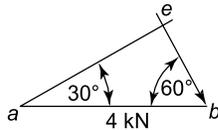
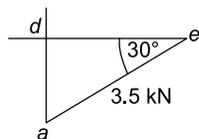
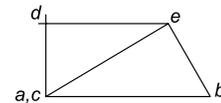

Figure 6.16
Figure 6.17
Figure 6.19
Consider joint ABE , as there are only two unknown forces here, namely the forces in the members BE and EA . Working clockwise around this joint, the vector diagram for this joint is shown in Figure 6.16.
Joint (2) cannot be considered next, as it has three unknown forces, namely H_2 , R_2 and the unknown member force DE . Hence, joint (1) must be considered next; it has two unknown forces, namely R_1 and the force in member ED . As the member AE and its direction can be obtained from Figure 6.16, it can be drawn to scale in Figure 6.17. By measurement, $de = 3$ kN.
As R_1 is vertical, then the vector da is vertical, hence, the position d can be found in the vector diagram of Figure 6.17, where $R_1 = da$ (pointing downwards).
The complete diagram for the whole framework is shown in Figure 6.19, where it can be seen that this diagram is the sum of the vector diagrams of Figures 6.16 to 6.18.